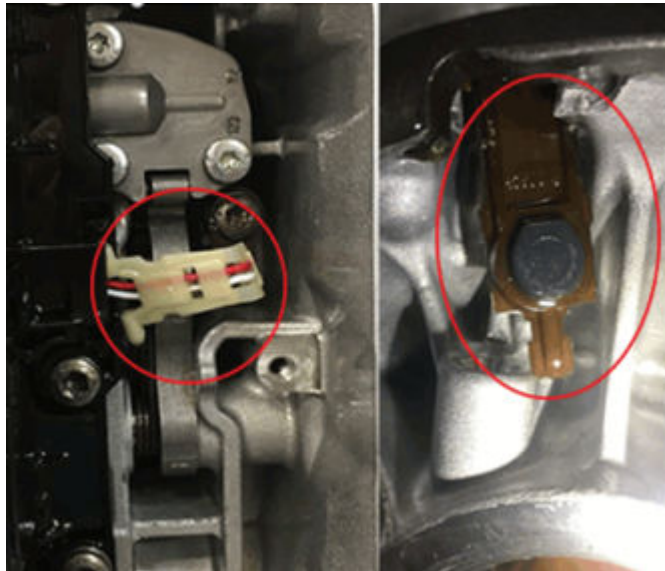

Fig. 44
69. When installing the Output Speed Sensor (OSS) into the case, take care to position the OSS guide pin as shown below or damage to the sensor may result. This is the incorrect alignment of the pin Fig. 44.